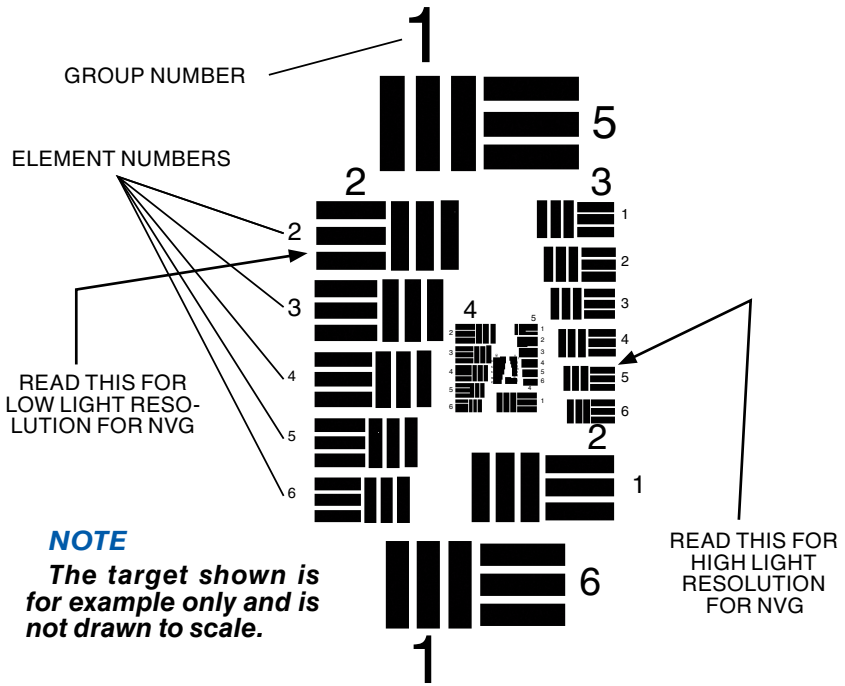

FIGURE 2.2. TS-4348/UV TEST SET PATTERN
- (1) Place the HIGH/LOW switch on the test set to the LOW position.
- (2) Turn off the room light and let your eyes adjust to the dark.
- (3) Turn on the test set by pressing the knob inward.
- (4) Turn on the goggles and insert it into the test port on the test set.
- (5) Look through the goggles and view the projected pattern (see Figure 2.2.). If necessary, focus the eyepiece lens and then the objective lens to obtain the sharpest image.
- (6) The NVG goggles must be able to resolve Group 2, Element 2, under low light conditions to pass the test. If the NVG does not pass the test, return it to maintenance for repair. The operator must document resolution failures on the maintenance record.
(7) Flip the HIGH/LOW switch to the HIGH position.
(8) Again, look through the goggles and view the projected pattern (see Figure 2.2.). If necessary, refocus the objective lens and then the eyepiece lens to obtain the sharpest image.
(9) The NVG must be able to resolve Group 3, Element 5, under high light conditions to pass the test. If the goggles do not pass the test, send it to a higher level of maintenance for repair.